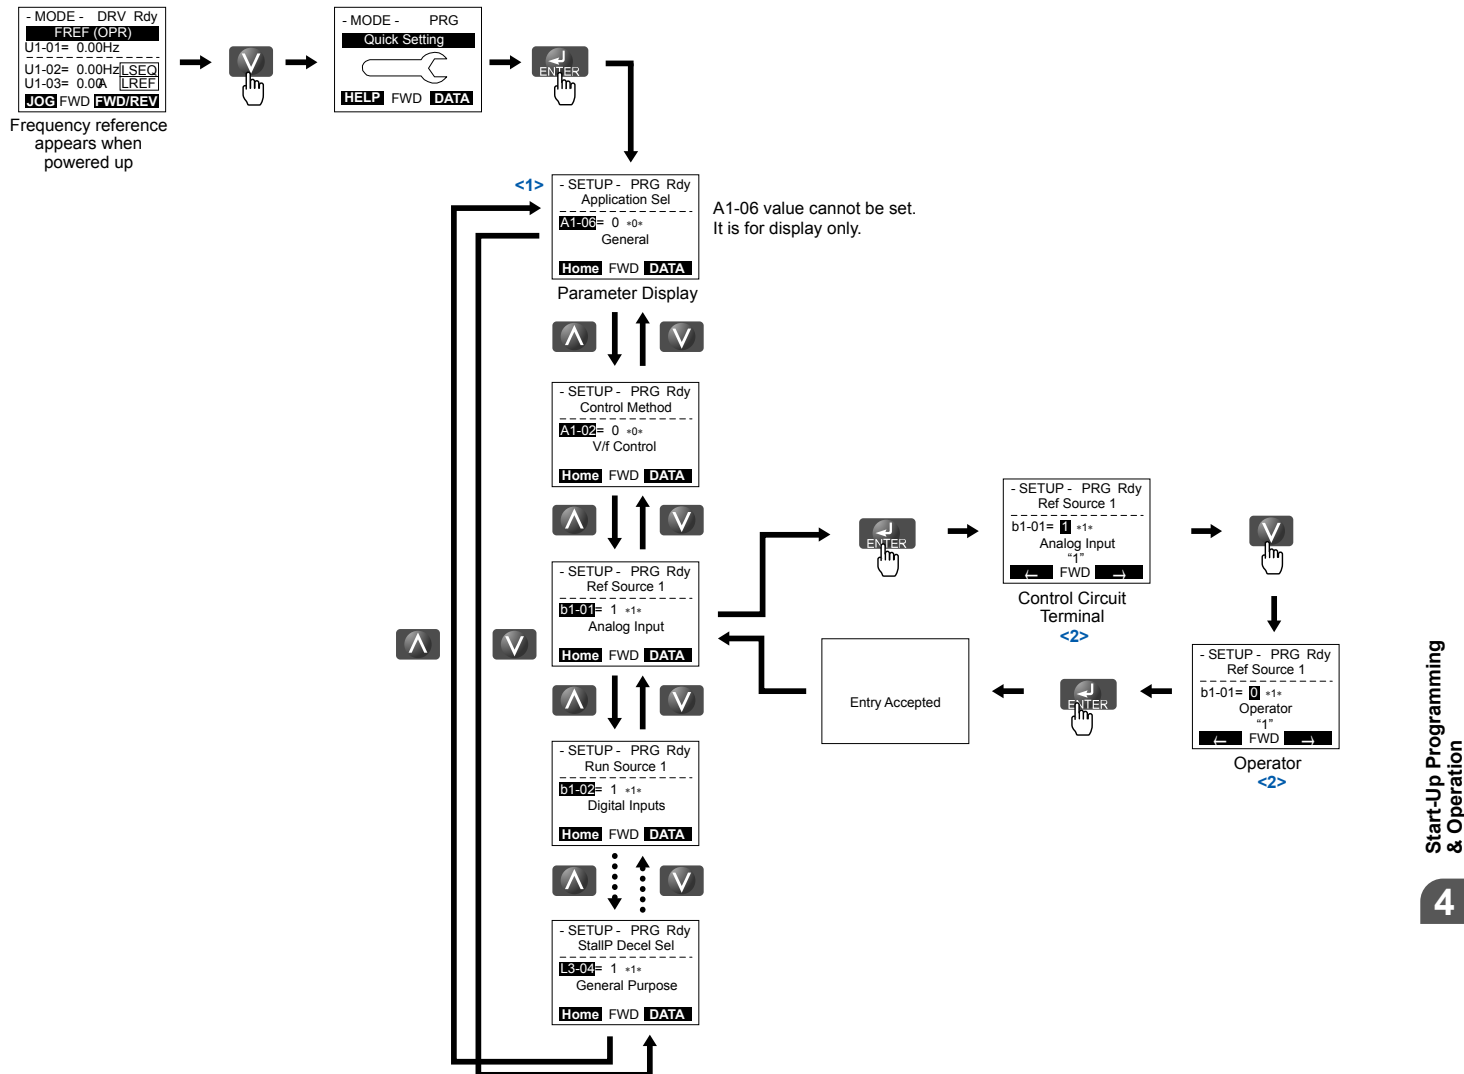

Figure 4.8 Setup Group Example
*Figure 4.8* illustrates how to enter and how to change parameters in the Setup Group.